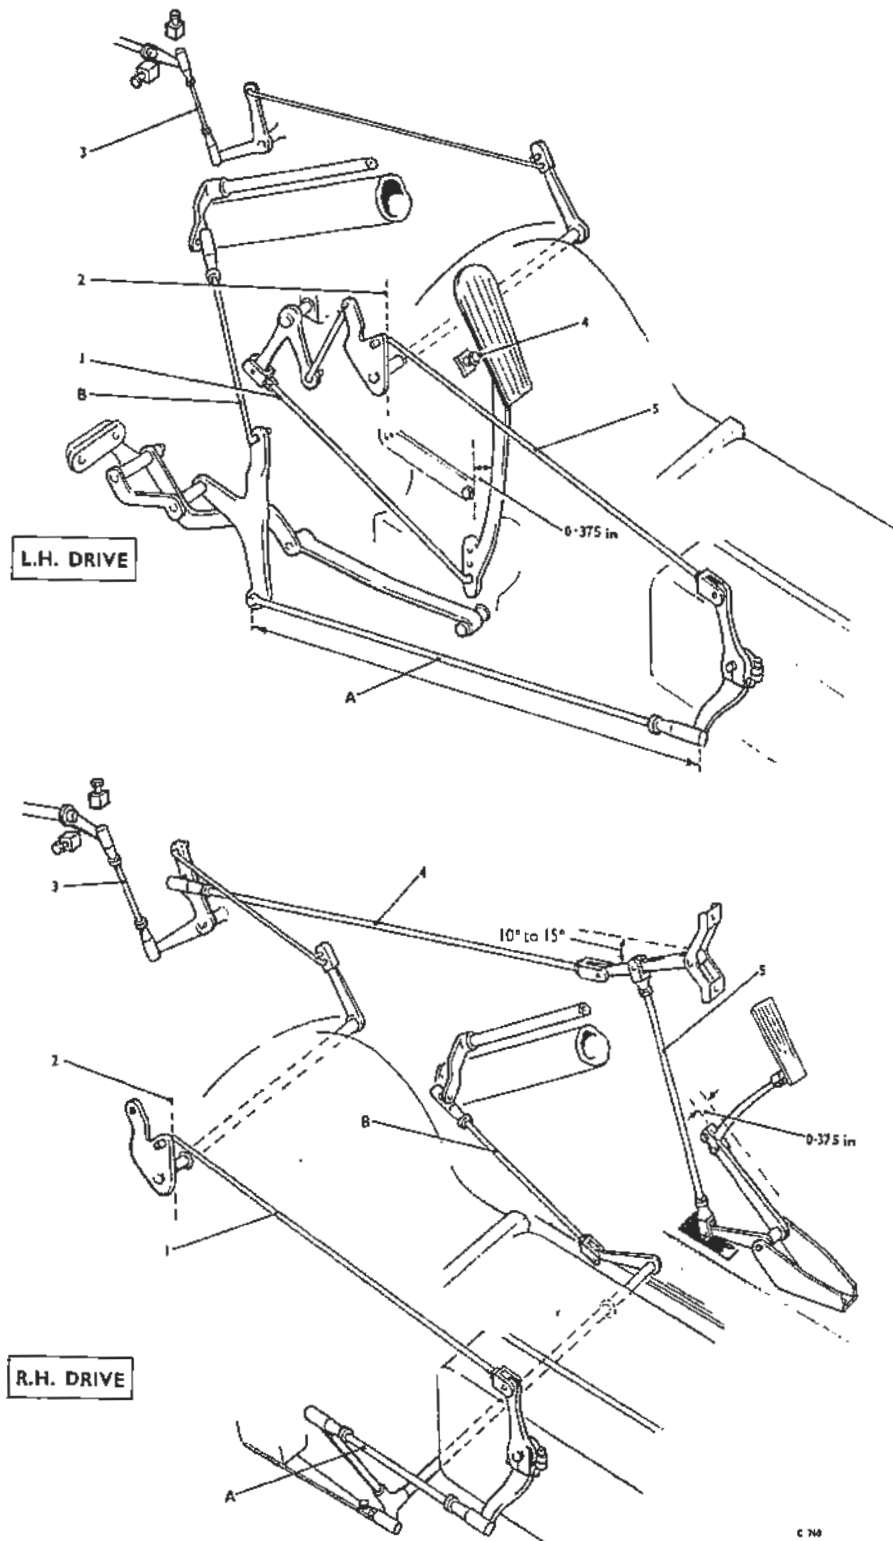

Fig. 34 T.V. and selector controls (1953 cars)
On right-hand drive cars, disconnect the accelerator to bulkhead lever (5) (see Fig. 34 R.H. drive).
On left-hand drive cars, disconnect rod (1) (see Fig. 34 L.H. drive).